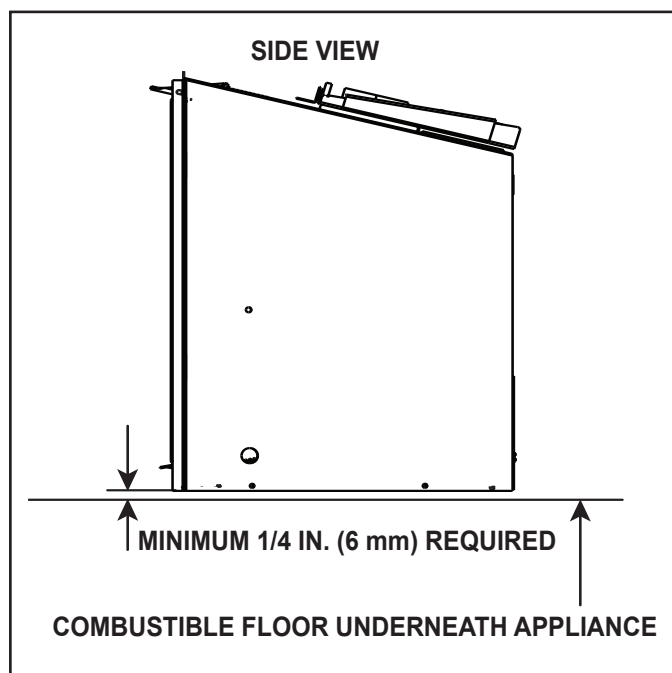

Figure 8.7 Solid Fuel Floor Clearance
- A minimum 1/4 in. (6 mm) gap from the bottom of the appliance to any floor surface is **REQUIRED**. See side view in Figure 8.7.